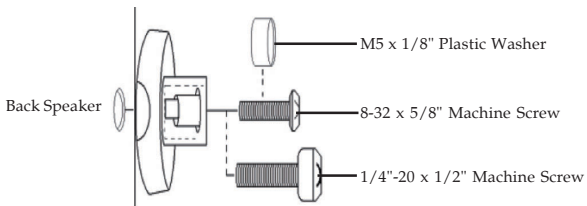

Figure 3
4. Check the size of the hole, make sure you have the 8-32 x 5/8" machine screw, the 1/4"-20 x 1/2" machine screw, the M6 x 20mm, or the M5 x 20mm fits inside, see **Figure 3** below.